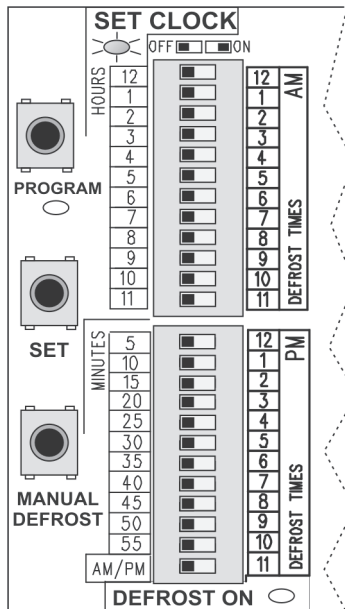

Fig. 12
Begin with the defrost timer on normal Operation Mode: The SET CLOCK light is blinking rapidly and the PROGRAM and DEFROST ON lights are off. If all switches are OFF (Fig. 12), the factory preset defrost schedule is enabled: 2 AM, 8 AM, 2 PM, 8 PM.
- To customize your defrost schedule, begin with all switches OFF (Fig. 12).